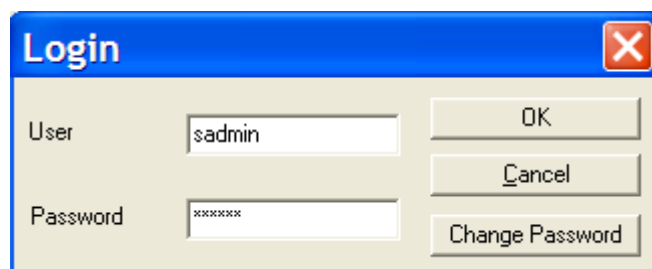

Figure 2-8: Login – system administrator login
2. Enter a system administration (Level 3) User Name and Password. Change Password appears (Figure 2-8).